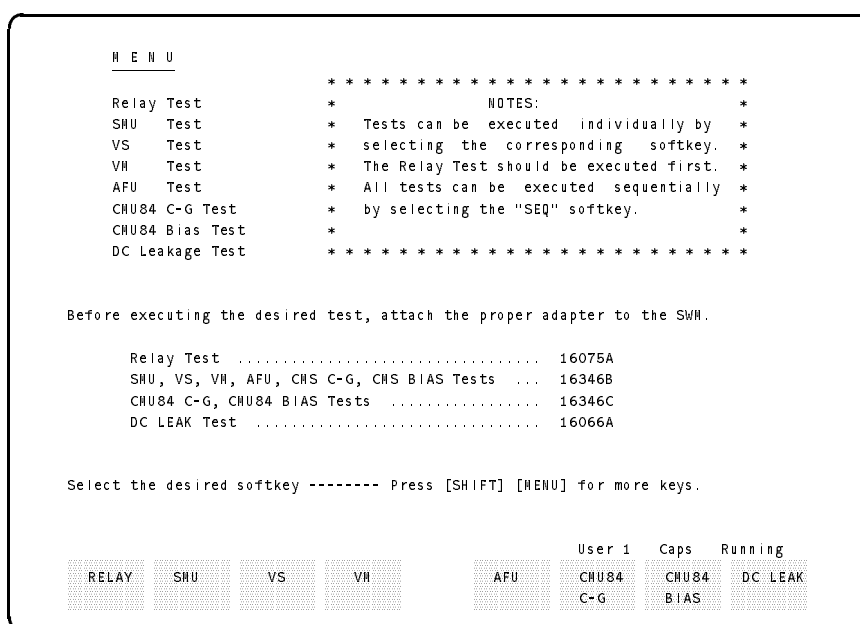

Figure 2-9. 4062 W/O DVM Test Menu Page
10. Select the **Start** softkey after only the test fixture is mounted on the SWM. The START measures the stray capacitance for the CMS C-G Test or CMU84 C-G Test. Then the 4062 W/O DVM test menu page similar to Figure 2-9 is displayed. Select the desired subtest by selecting the corresponding softkey, and follow the displayed instructions.